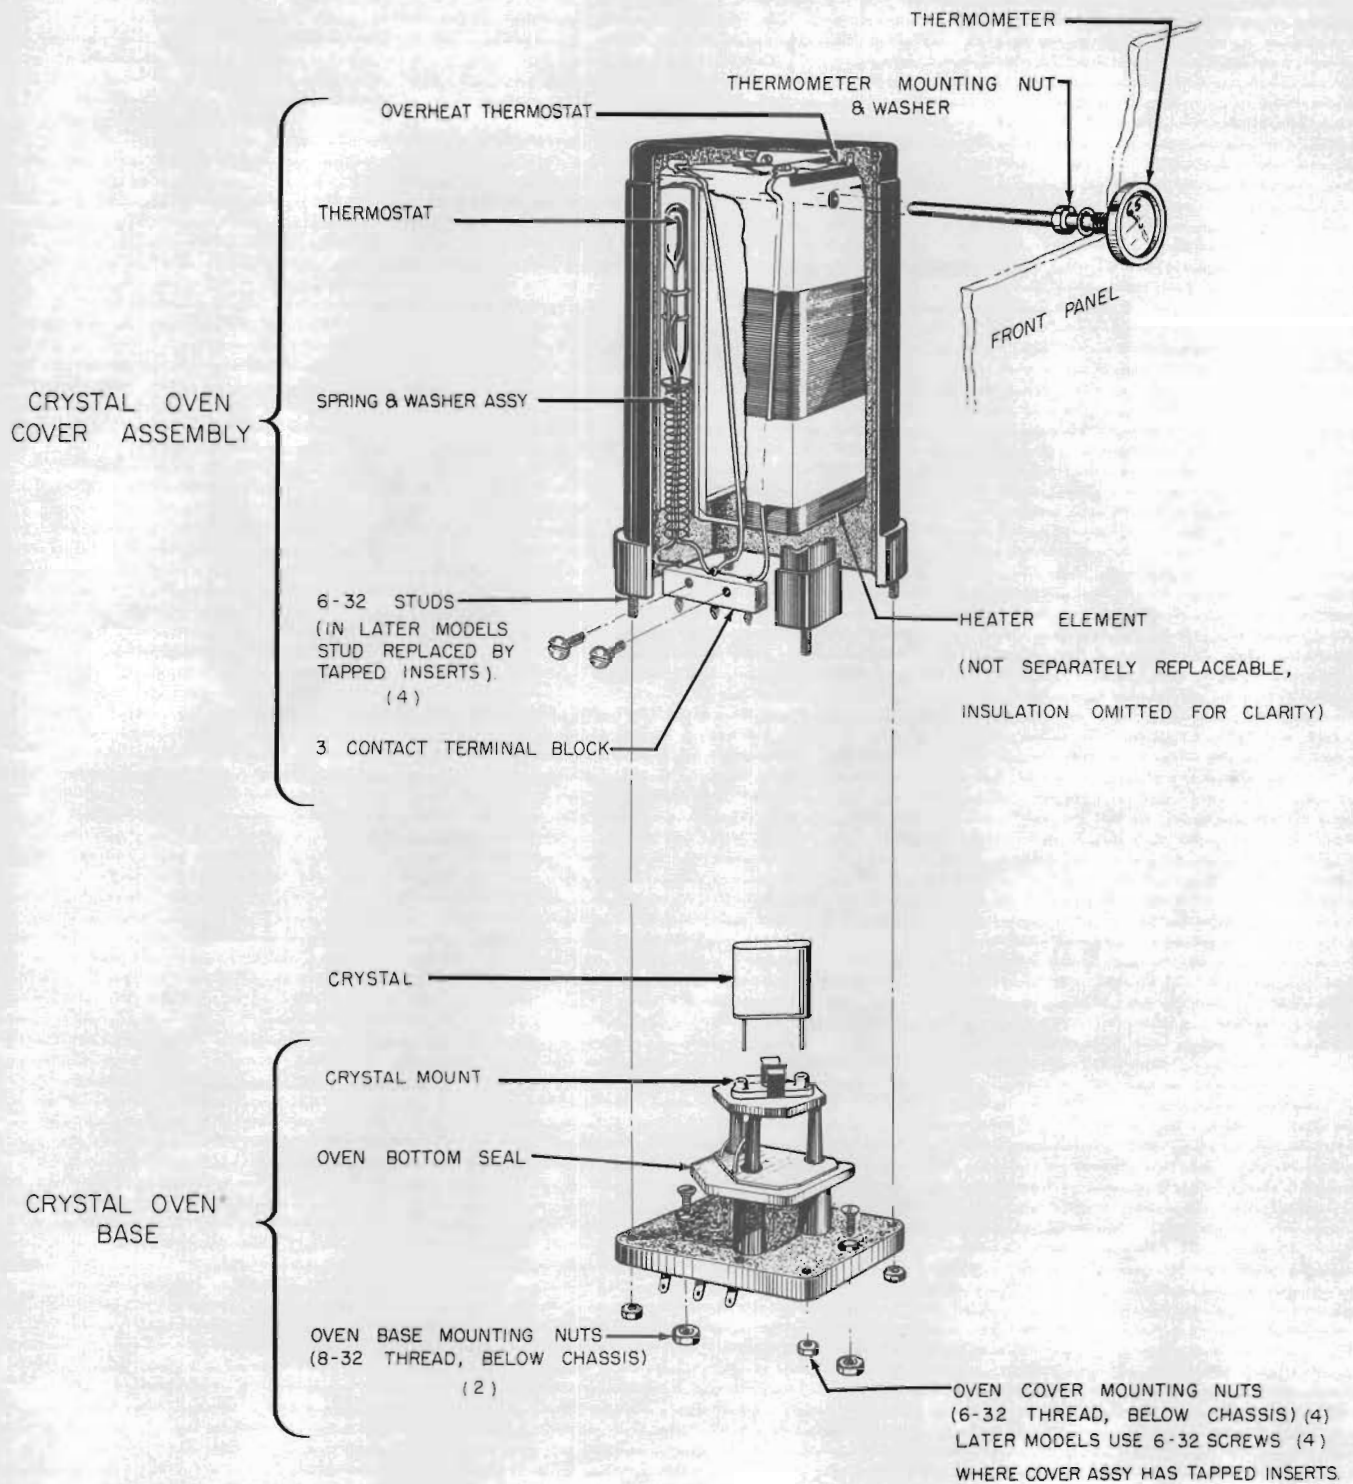

Fig. 4A. Exploded View of Crystal Oven
2. Remove front panel thermometer. See figure 4A.
5. On the oven top, remove the two 6-32 screws which hold the three contact terminal block. See figure 4A.